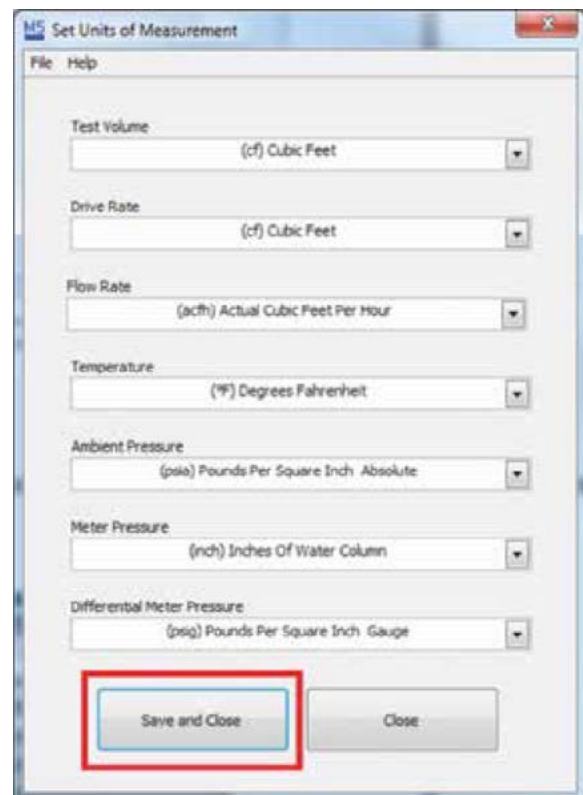

Figure 20: Save and Close
8. Click on the "Save and Close" button as shown in Figure 20. There will be a prompt to confirm the selection.